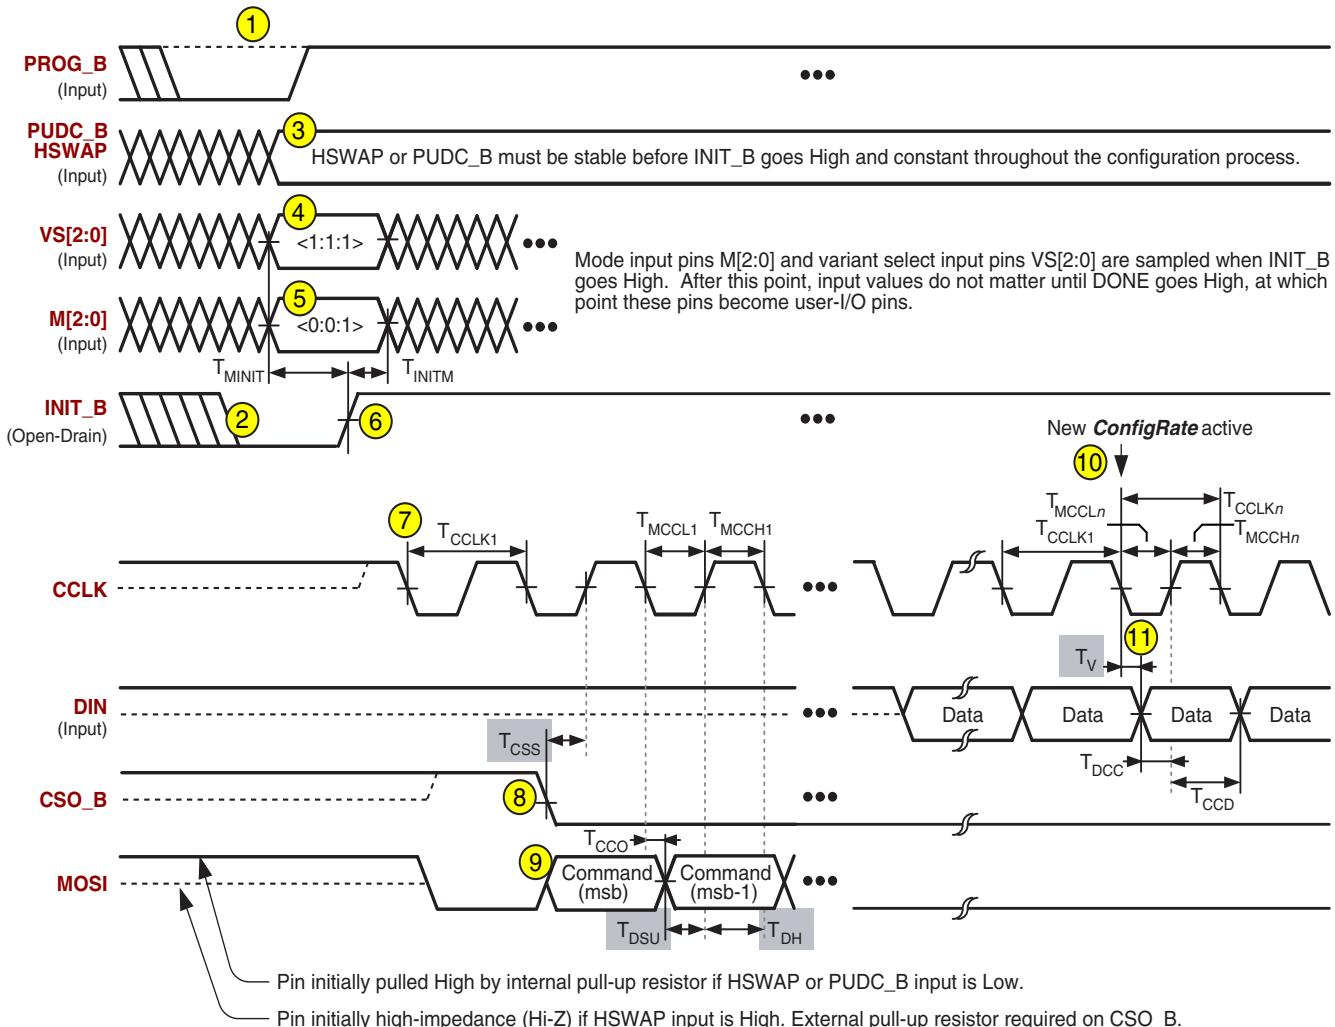

*Figure 4-28: SPI PROM Programming Options*
14. Click the **Programming Properties** option under **Category**, as shown in Figure 4-28.
18. The iMPACT software indicates successful programming, as shown in Figure 4-28. The FPGA is configured with the new programming file.